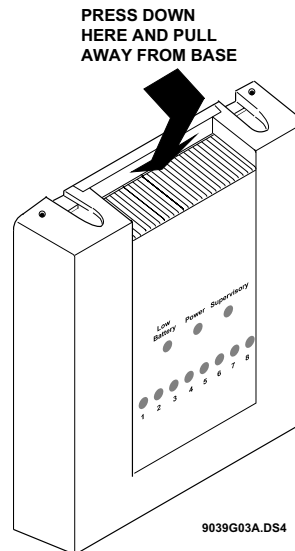

Figure 6. Removing the Receiver's Cover
- 1) Remove the receiver's cover by pressing down on the top center of the cover (see Figure 6.).